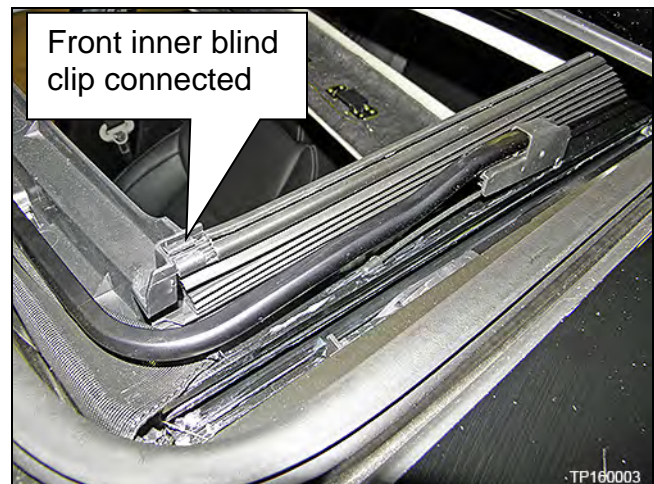

Figure 25
- b. Reconnect the front clip of the inner blind to the front corner of the Moonroof frame (Figure 25).